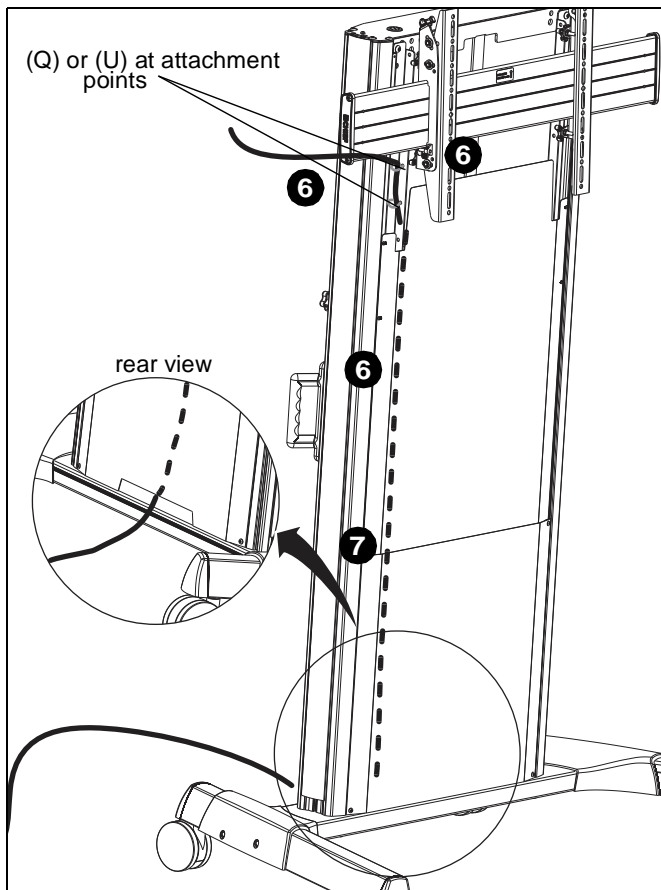

Figure 16
6. Route cables from display through inside of column assembly attaching at cable management attachment points and/or accessory bracket using cable ties (Q) or cable clips (U) as desired. (See Figure 16)
7. Route cables out through the slot on the back of the cart. (See Figure 16)